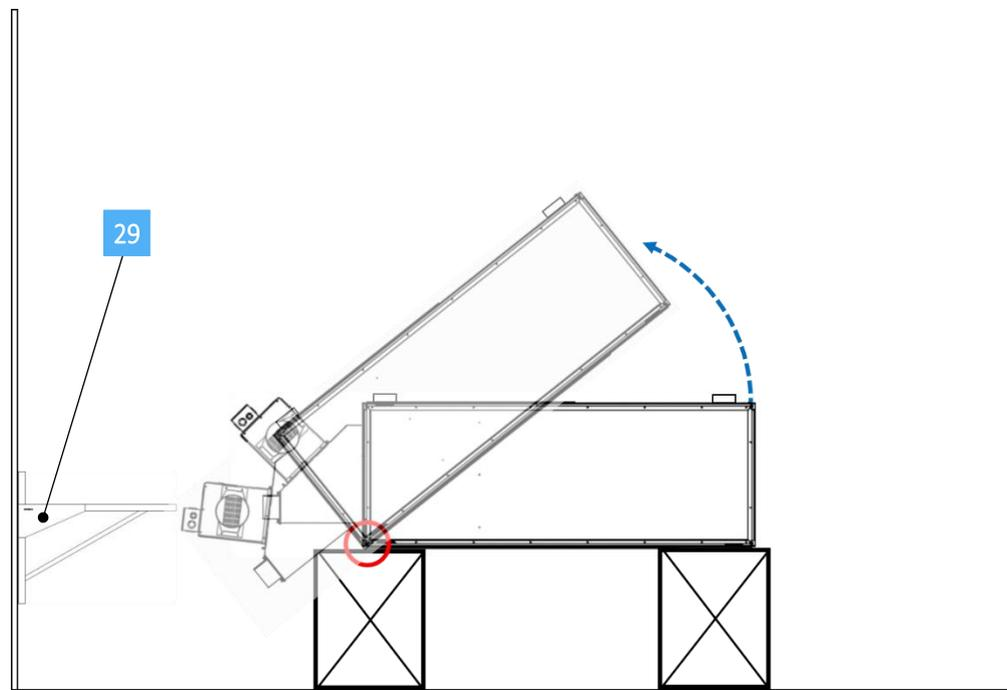

Fig. 32 *Lifting of the dark box: Phase 1. The pivot point is indicated in the red circle.*
- 1 Bring the dark box near the support stirrups [29] with the projector side facing them. Avoiding sudden movements lift the dark box terminal far from the stirrups (2 people) pivoting on the support structures where the dark box was mounted (other 2 people) as indicated in figure 32. Pay attention to not bump light engine with the ground. If possible and/or necessary, use further support structures to rest the dark box vertically before the second phase of the lifting.